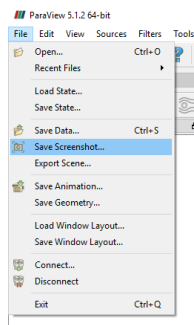

Figure 10: Output figurese
Step 9 Output figures.(Figure.10)